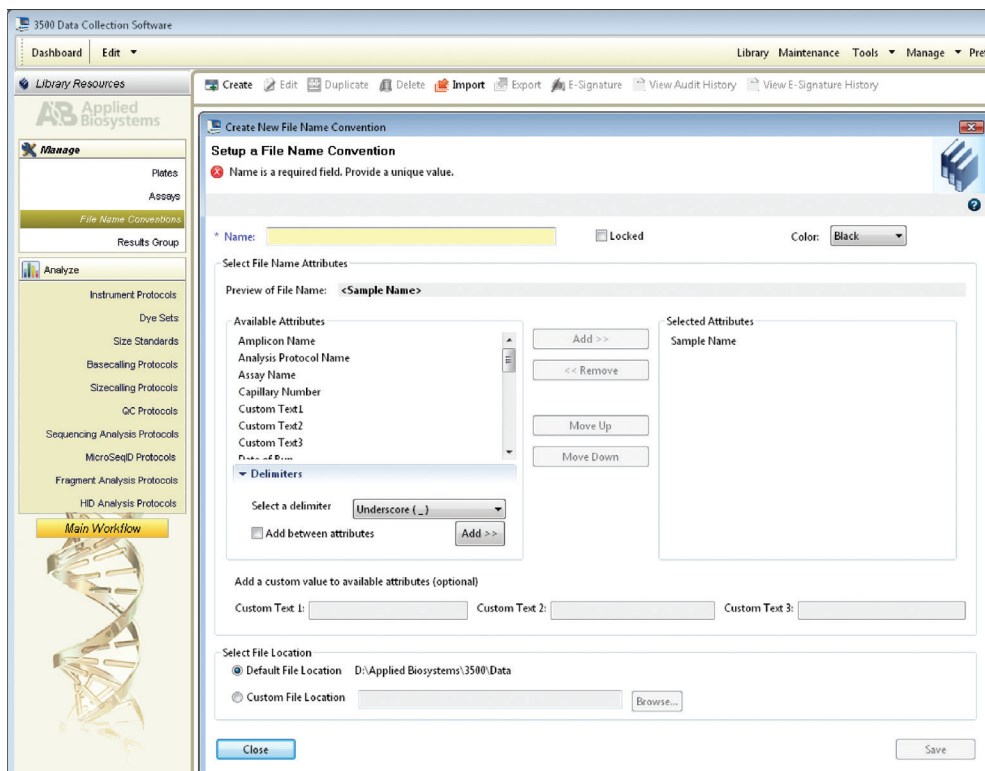

Figure 6. The ‘Create New File Name Convention’ window.
- 2.e. To create a new File Name Convention (Figure 6), navigate to the Library. Select **File Name Conventions**, then select **Create**. Alternatively, a previously created File Name Convention can be used.